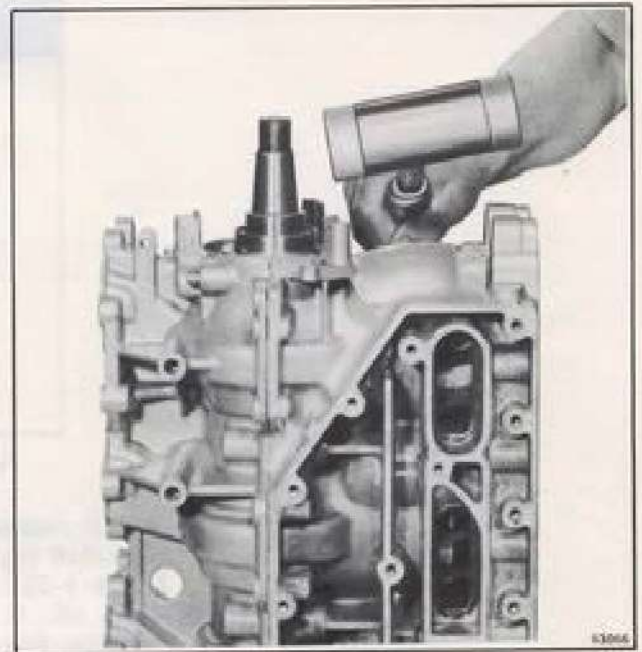

Figure 5-17. Separating Crankcase and
d. Tap crankshaft with rawhide mallet to break seal between crankcase and cylinder. See Figure 5-17. Lift crankcase from cylinder block.